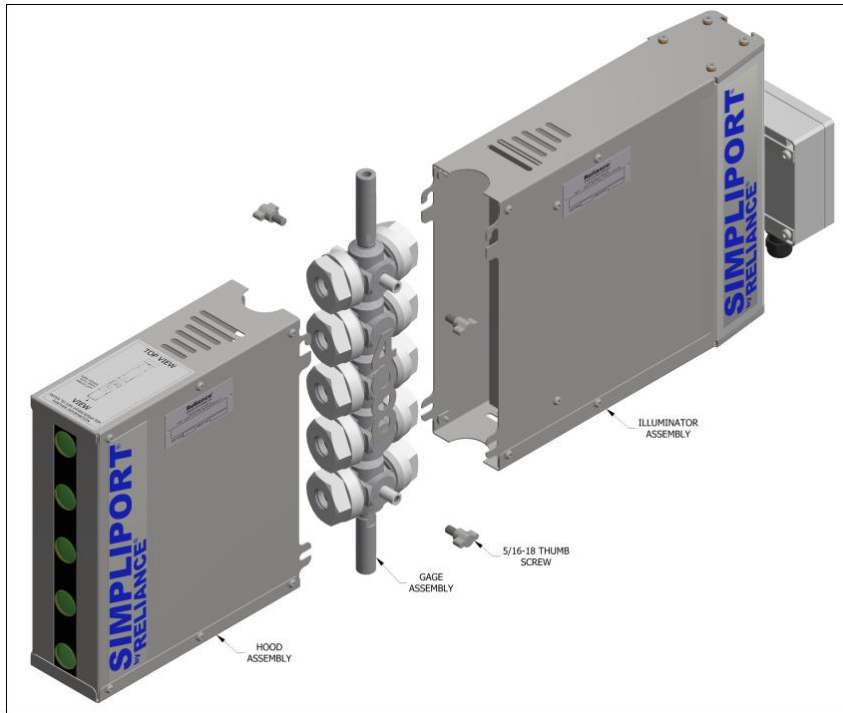

Figure 1
- 1) Install the (4) 5/16-18 Wing Screws into the mounting lugs on both sides of the Simpliport Gage, leaving approximately 1/4" unthreaded (Ref. Fig. 1) Note: If retrofitting a new illuminator and hood assembly, remove the existing mounting bars before installing the Wing Screws.